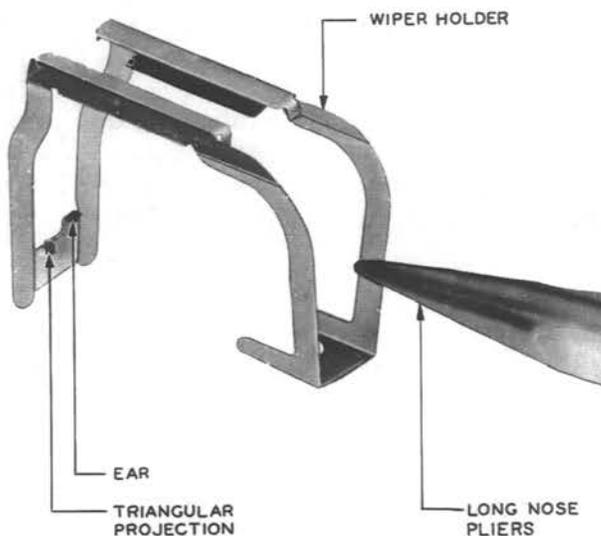

Fig. 8 - Grasping Wiper Holder With Long-Nose Pliers
3.10 Wiper Holder: To replace a wiper holder, mount the 613A clamp as covered in 3.04. Loosen the brush frame clamping screw with the 555A wrench and remove the bracket or front guide. Using the 619A adjuster, depress the strap wire extending across the rear of the commutator. To remove the holder, slip the split ends of the holder over the brush rod and push the holder to the rear. Before mounting a new wiper holder on frames not equipped with rear guides, check the rear of the brush frame and guide studs for wear. If they are reaching a point where trouble might be experienced, give consideration to mounting a P-463341 guide as covered in 3.24 through 3.27. To mount a new wiper holder, grasp one of the legs at the split end with the long-nose pliers as shown in Fig. 8. Insert the holder at one side of the commutator around which it is to be placed so that the split end of the holder is at the rear of the commutator. Then, using the KS-6320 orange stick, spread the legs of the holder just enough
the holder toward the rear and press down equally on both sides until the triangular projections (see Fig. 8) and the two ears on the inside of the holder slip over the tab of the rear guide. Then proceed as covered in 3.13. Using the 376A dental mirror, make sure that the triangular projection on the holder engages the undersurface of the commutator brush frame through the slot in the rear guide.